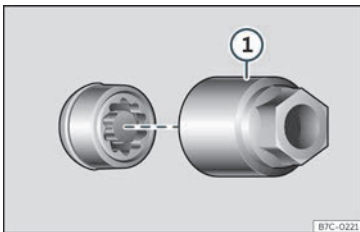

Fig. 33 Anti-theft wheel bolt with cap and adapter.
- Insert the special adapter»» Fig. 33 ① (vehicle tools)»» page 41) onto the anti-theft wheel bolt and push it on as far as it will go.